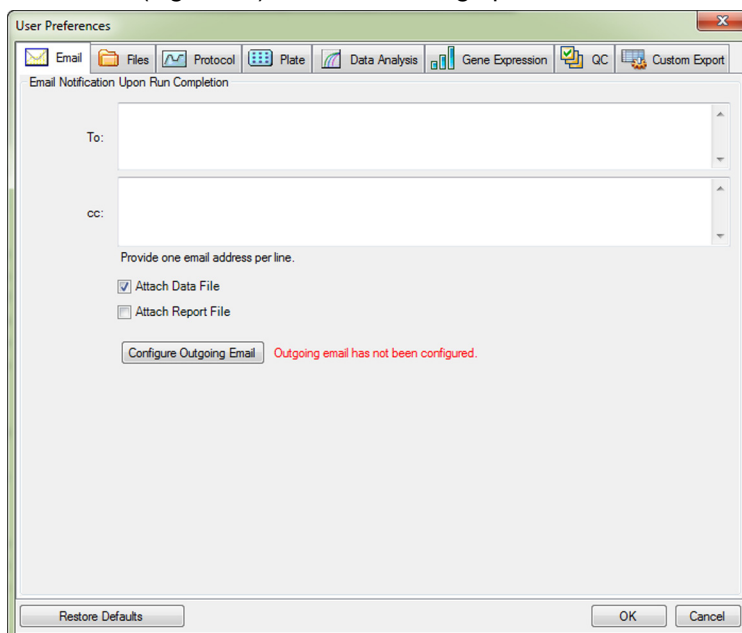

Figure 89. User Preferences window with tabs.
- Click one of the tabs (Figure 89) to view or change preferences
Select the **Email** tab (Figure 89) to enter the email addresses where you want to receive confirmation of the completion of runs. The software can send an attached data file or report file with the email when the checkboxes next to these options are checked.